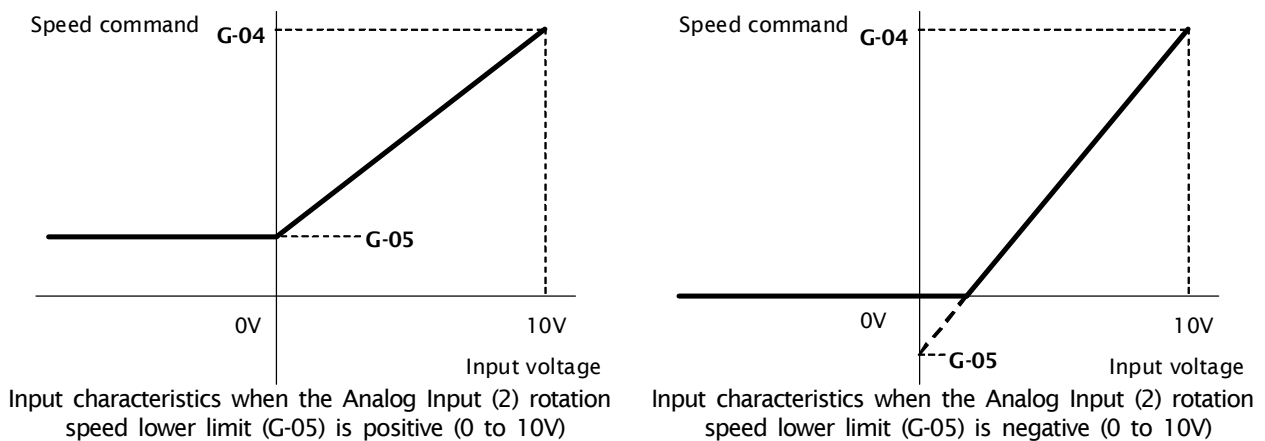

Figure 5.3 Speed command characteristics with voltage input of 0 to 10V
The rotation speed command value is set as the Analog Input (2) rotation speed lower limit (G-05) when the input is 0V. When the input is 10V, it is set as the Analog Input (2) rotation speed upper limit (G-04). However, this will be set to "0" if the Analog Input (2) rotation speed lower limit (G-05) has a negative value. (Figure 5.3) If the minimum rotation speed (A-01) is other than "0", the rotation speed command absolute value is controlled to prevent falling below the minimum speed. As a speed command, this only allows forward operation. For reverse operation, a reverse operation command should be used.